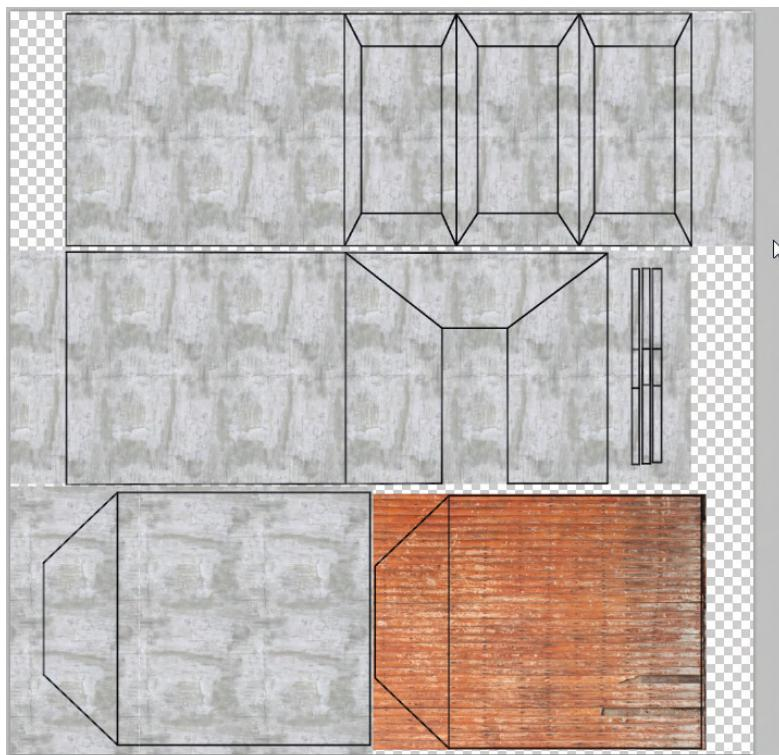

FIG. 6.6 Floor base in place.
Step 13: Find, download, and place a floor base. I'm using a worn wood floor (again, the specific link is listed at the support website). After placing, be sure to label the layer as Floor Base (Fig. 6.6).